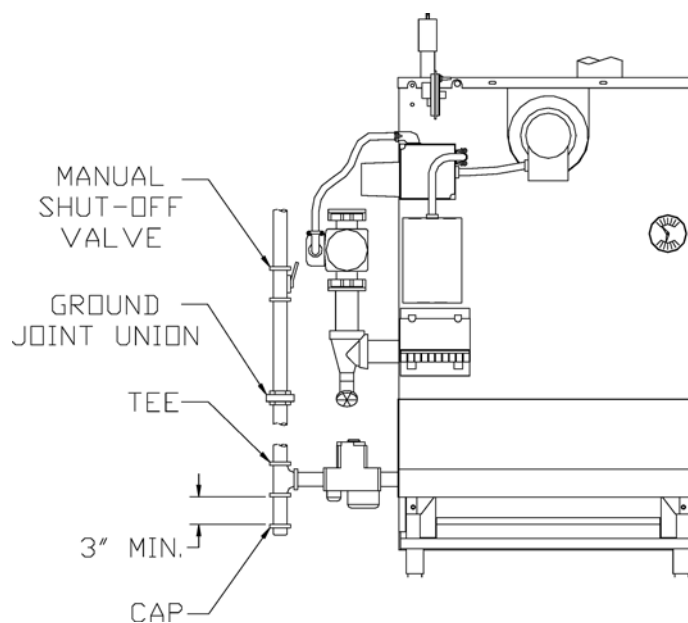

Figure 10: Recommended Gas Piping
3. Install sediment trap, ground-joint union and manual shut-off valve upstream of boiler gas control valve. See Figure 10.